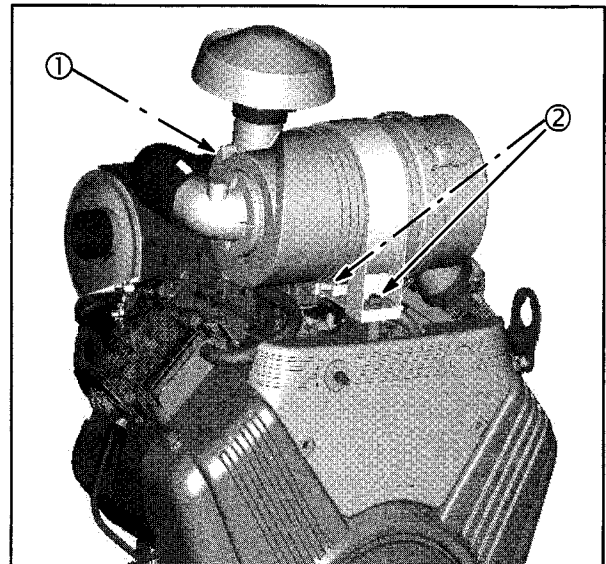

Fig. 6
1. Loosen the clamp (1) for the air inlet hose, Fig. 6.
2. Remove two mounting band screws (2). Remove the air cleaner assembly.